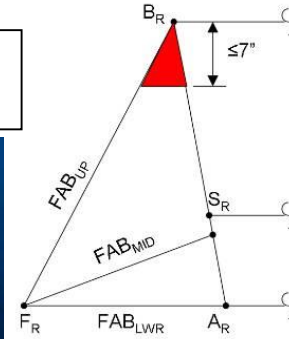

Figure 2
- (A) **Cockpit Switch** – The cockpit switch must be located in the front of the cockpit within easy reach of the driver with the safety harness tight. The switch may not be mounted on a removable steering wheel assembly.
- (B) **External Switch** – The external switch must be mounted on the driver's right side of the vehicle, on a panel generally perpendicular (it can be mounted between the RRH and FAB tubes) to the firewall (+/- 15 degrees) between RRH and Rear Bracing within the red area, (Fig 2) and behind the plane of the RRH. The switch cannot be more than 178 mm (7 in) vertically below point. BR. The switch must be within easy reach of track workers, the switch must be mounted rigidly, with no sharp edges nearby. It must not be necessary to reach inside the roll cage to actuate the switch.